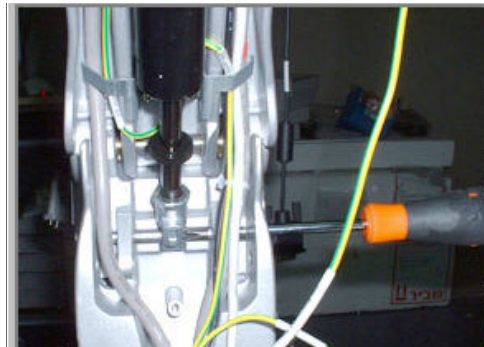

Figure 8-256 Tapping out the Lower Support Pin using a Punch
- 2.) Secure the support pins by tightening the two locking screws - Figure 8-256.
- 4.) Tap out the internal supporting pin using a punch - Figure 8-256.